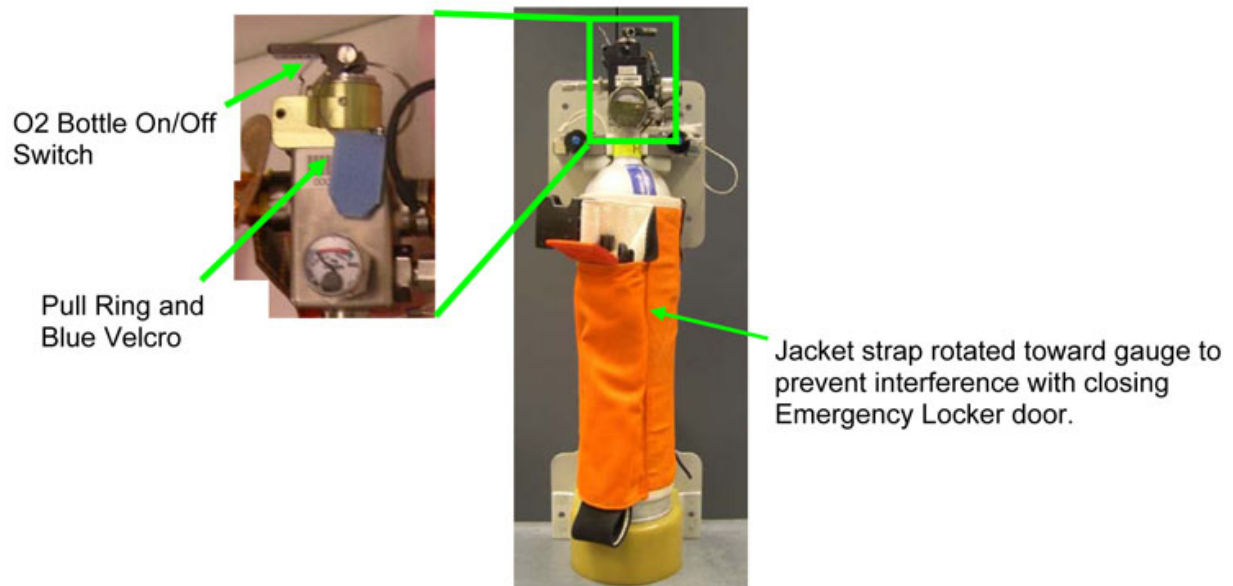

Figure 10. PBA Installed in Bracket with Jacket Rotated.
Refer to Figure 10.
- 3.6 Rotate PBA Oxygen Bottle Jacket so that it is in line with the gauge and will not interfere with installing bottle on bracket or closing Emergency Locker door. Refer to Figure 10.